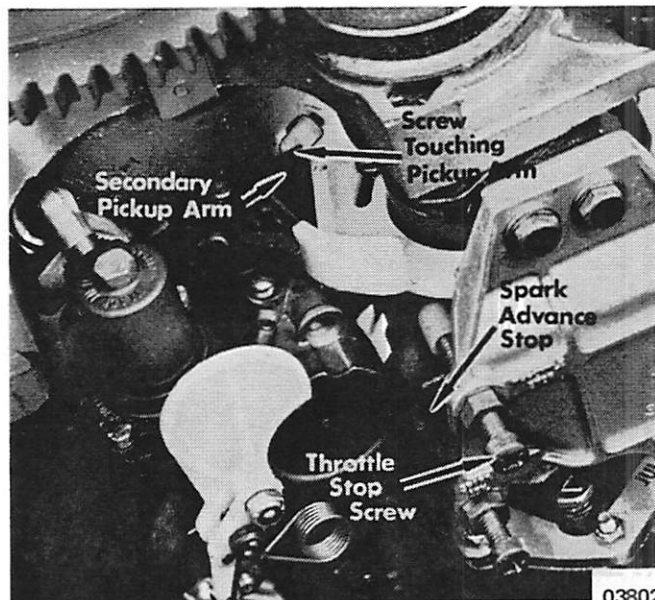

Figure 14. Secondary Pickup Adjustment
- c. Without running engine, rotate distributor against spark advance stop. (Figure 14) Adjust secondary pickup with screw on throttle actuator plate. Turn screw until it just touches secondary pickup arm on carburetor cluster. Tighten jam nut.